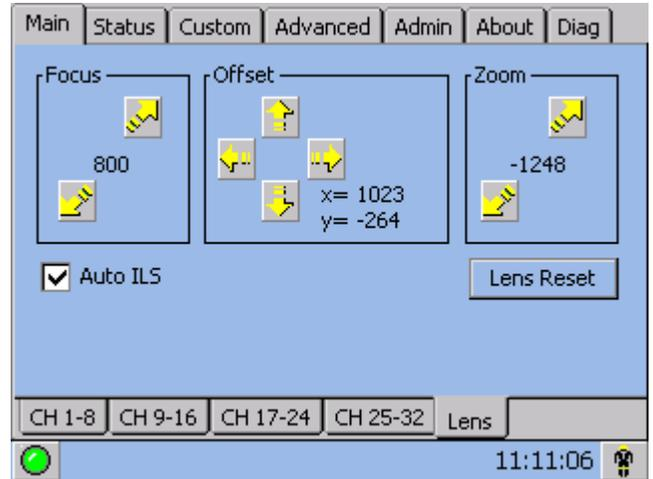

Figure 2-35 Intelligent Lens System
2. Using a DC2K Framing test pattern (DC2K Framing.tga is recommended), adjust the **Offset** by clicking the up/down/left/right buttons on the **Main: Lens** menu (Figure 2-35), as necessary to display a square image on the screen. **NOTES:** **1)** *You can also hold the buttons down for continuous movement.* **2)** *For best optical performance, make sure to minimize keystone error by using offset more than aiming to center the image in off axis installations.* **3)** *For best results, avoid extreme tilts or offsets. Corner vignettes on a white test pattern indicates extreme offset that should be avoided using mechanical alignment.*